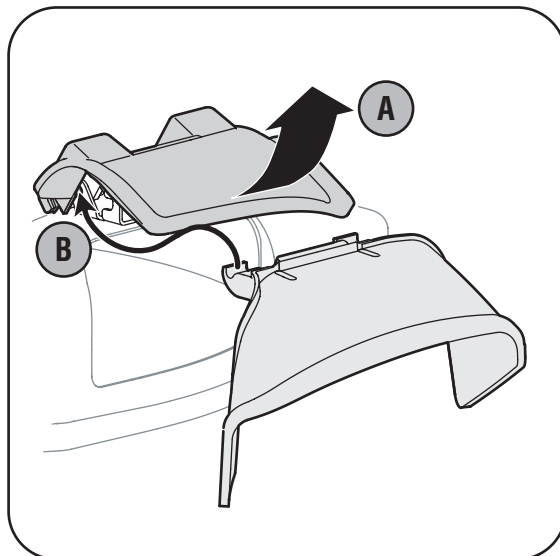

Figure 3-6
- b. Slide the two hooks on the side-discharge deflector under the hinge pin on the mulching plug assembly. Lower the mulching plug. See Figure 3-6.